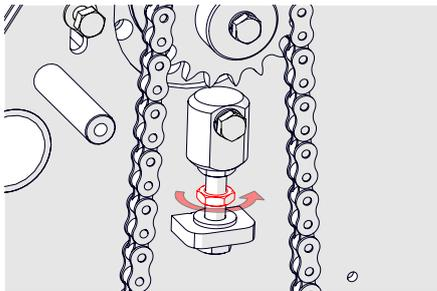
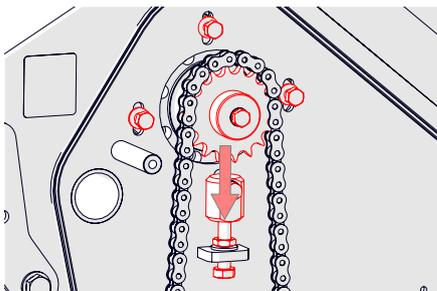

Fig. 15D - Loosen fully the tensioner block locking nut.
Fig. 15E - Support the weight and lower.
5. While supporting the weight of the motor and chain/belt, loosen fully the tensioner block lock nut [17 mm spanner] below the tensioner block and lower (Fig. 15D & Fig. 15E).